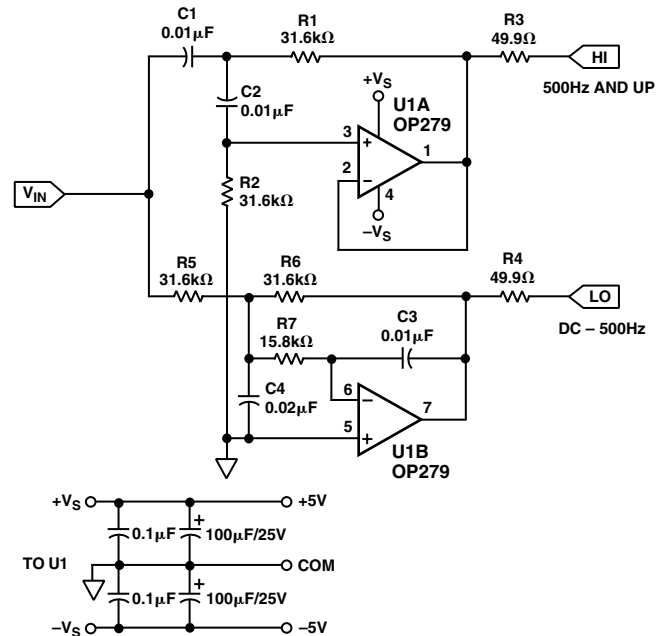

Figure 18. Two-Way Active Crossover Networks
Active filters are useful in loudspeaker crossover networks for reasons of small size, relative freedom from parasitic effects, and the ease of controlling low/high channel drive, plus the controlled driver damping provided by a dedicated amplifier. Both Sallen-Key (SK) VCVS and multiple-feedback (MFB) filter architectures are useful in implementing active crossover networks (see Reference 4, page 14), and the circuit shown in Figure 18 is a two-way active crossover that combines the advantages of both filter topologies. This active crossover exhibits less than 0.01% THD+N at output levels of 1 V rms using general purpose unity gain HP/LP stages. In this two-way example, the LO signal is a dc-500 Hz LP woofer output, and the HI signal is the HP (> 500 Hz) tweeter output. U1B forms an MFB LP section at 500 Hz, while U1A provides an SK HP section, covering frequencies ≥ 500 Hz.